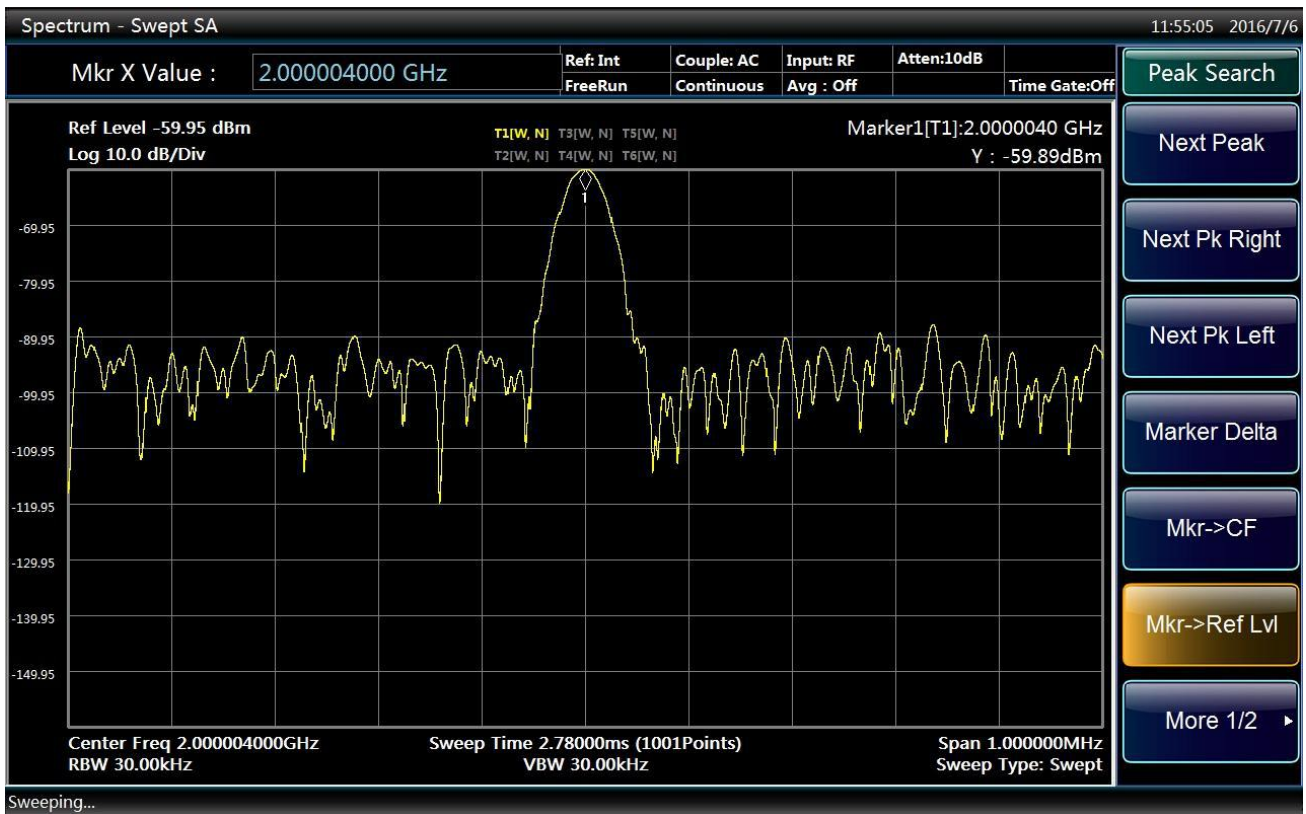

Fig. 4.22 Display interface of second harmonic amplitude
- Press [Marker →Ref Level] to adjust harmonic peak to the reference level with second harmonic amplitude as shown in Fig. 4.22.